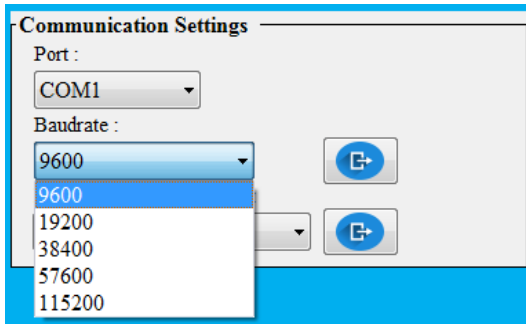
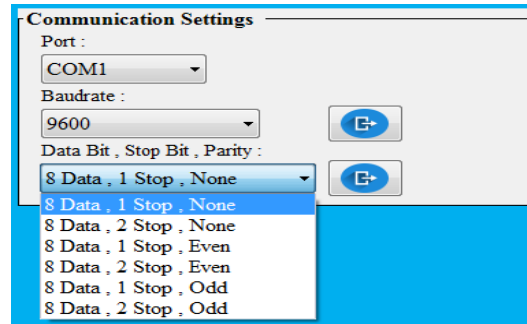

Figure 33
Figure 34
- There are different Baud rates; Data Bit, Parity and Stop Bit combinations are available for settings as shown in Figure 33 & Figure 34.